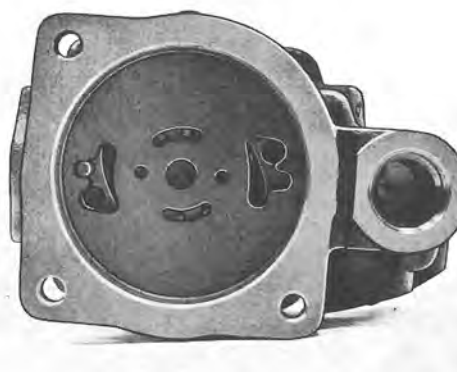

Fig. 6-95. Outer plate installed
10. Fit the plate (18) on the intermediate piece as shown in Fig. 6-95. The pin should be in one of the two outer holes.